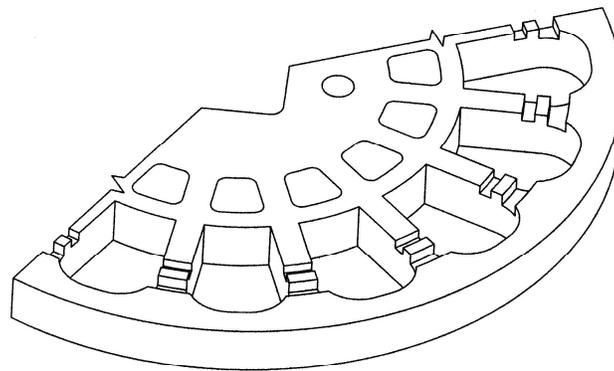

FIGURE 17
- 2. Watch the wear plate. When grooves develop the plate should be replaced with a new one and worn plate reground by Gunite Supply or your local Blanchard grinding shop, Figure 17.